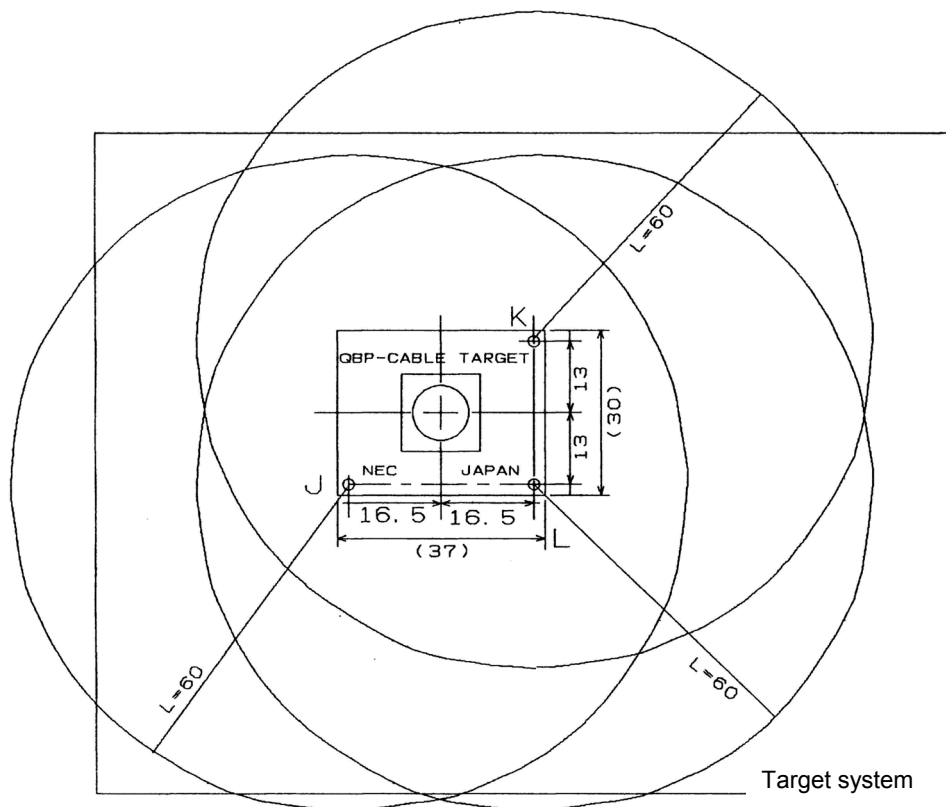

**Figure 2-7-3. Connection of GND Lines**
<1> Fix a GND line of the extension probe to the nut on the bottom surface of IECUBE using a #0 or #1 precision cross-headed screwdriver. (Connection of **A** and **B** in Figure 2-7-3)
<2> Insert the connector on the top surface of the extension probe in the connector at the bottom opening of IECUBE from the lower side. Take care with the direction. (Connection of **C** and IECUBE in Figure 2-7-3)
- <4> Connect two GND lines of the extension probe on the target system side to the GND block of the target system. If the pin or screw is fixed on the GND block of the target system, remove the transparent pin cover at the top of the GND line and fix the Y-branch pin of the GND line to the target system (**G** in Figure 2-7-3). In the same manner, if the GND pad on the target system is exposed, fix the Y-branch pin to the pad on the target system by soldering (**H** in Figure 2-7-3). (Recommended iron temperature: 300°C)